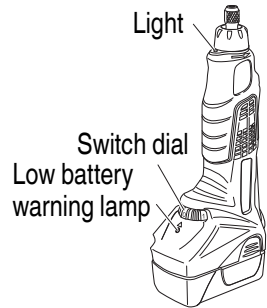

Fig. 2
1. Low battery warning lamp (Fig. 2)